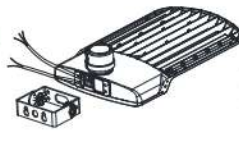

Figure 7
Step 1: Remove the bracket mounting screws on the fixture and run the wires through the bracket. (Figure 7)